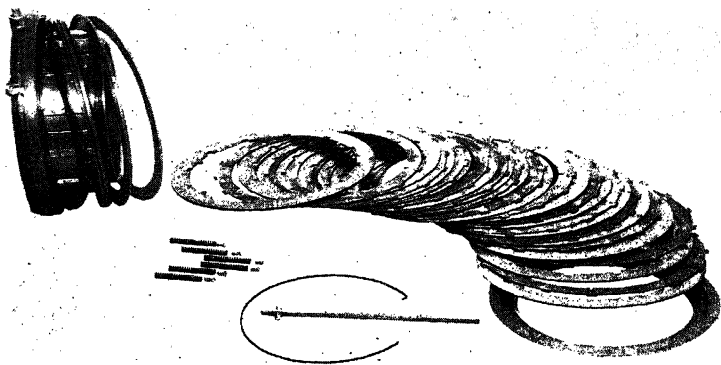

FIG. 21.—Brake rings and carrier for Goodyear brakes.
Although the mechanisms differ, the principles of operation are the same: Hydraulic pressure controls the contact between the braking surfaces whether they are friction plates or bands on brake drums. The Goodyear brake, shown in Fig. 21, uses bronze and steel disks, one set stationary and the other turning with the wheel. When forced together, they provide friction for stopping the plane.
**Goodyear Hydraulic Disk Brakes and Wheels** (Size 7.50-10 Mounting on 6.50-10 Axle, and for Either 6.50-10, 7.50-10, or 8.50-10 Tires).—These are extremely simple, practically foolproof, powerful, smooth, quiet, and long wearing. The mechanism is nothing more or less than a multiple-disk metal-to-metal clutch especially designed and built to function as an air-plane brake. Bronze disks are keyed to rotate with the wheel. Alternating steel disks, which are nonrotating, are keyed to the brake anchor bracket. The parts are seen in Fig. 21. These disks are pressed together by means of a piston actuated by a fluid line connected directly to the brake pedal. Braking power depends on the pressure applied to the pedal.